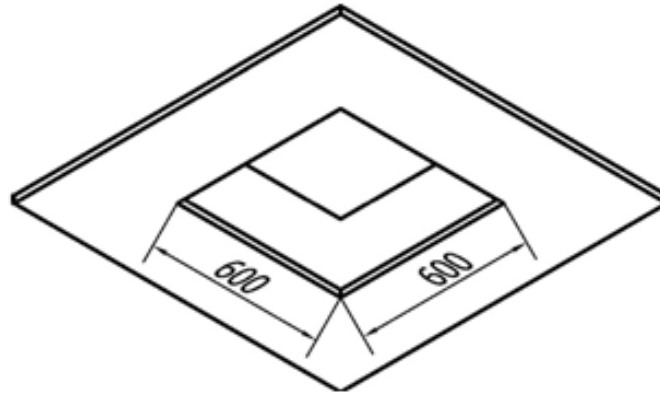

fig. 3
1. Cut an opening in your desired location for placing the WP lift. The opening should be 600x600 mm. (fig. 3).